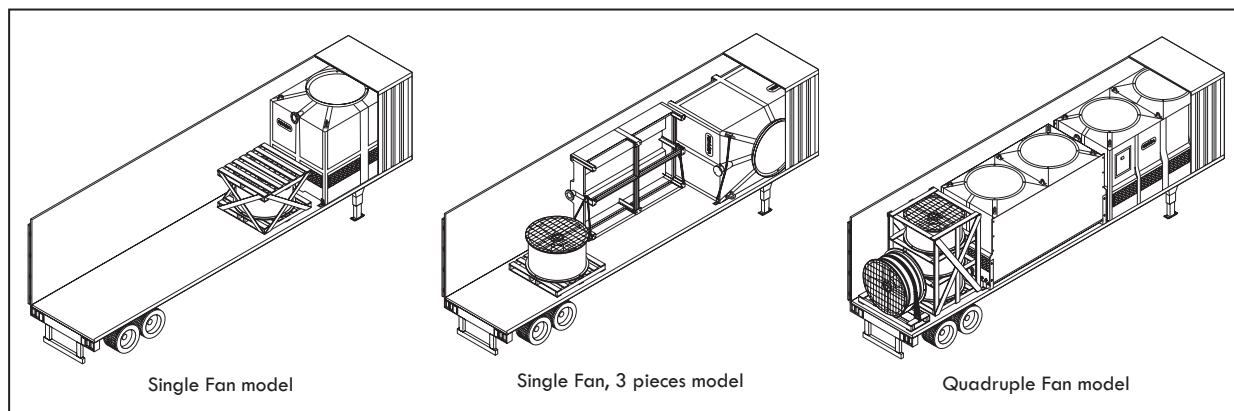

Figure AP-1: Unloading a Cooling Tower from a container
- A.** The body and duct sections are attached to the container. Make sure to unpin the Cooling Tower parts before unloading it. See Figure AP-1.